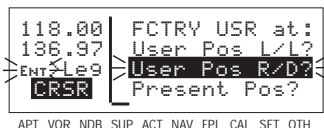

Figure 5-31
- Move the cursor down to the third line, over **User Pos R/D?** (figure 5-31).